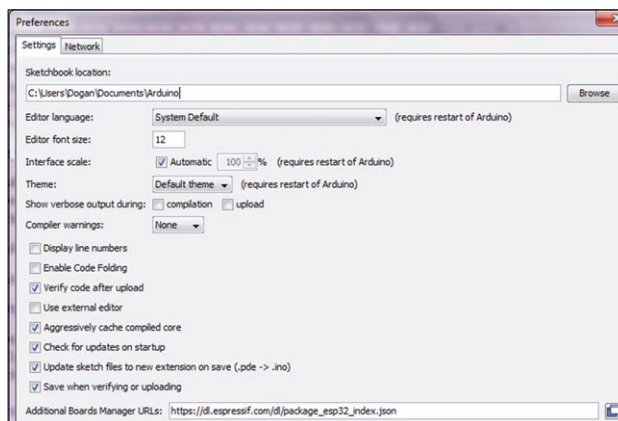

Figure 14.1 Preferences window
- Open your Arduino IDE and click **File -> Preferences** to open the Preferences window. Locate text box **Additional Board Manager URLs** at the bottom of the window and enter the following text as shown in Figure 14.1. If the text box contains another URL, add the new URL after separating it with a comma: